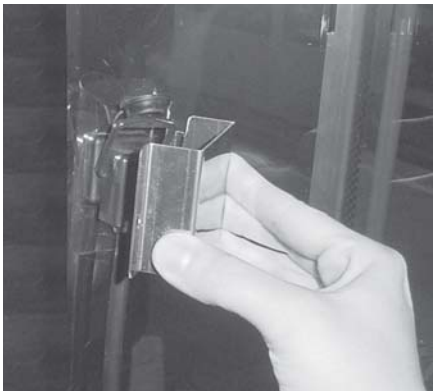

Figure 2-3
- b. Using a Phillip's head screwdriver, remove the screw securing the shelf plug cover and remove the cover. Figure 2-3.